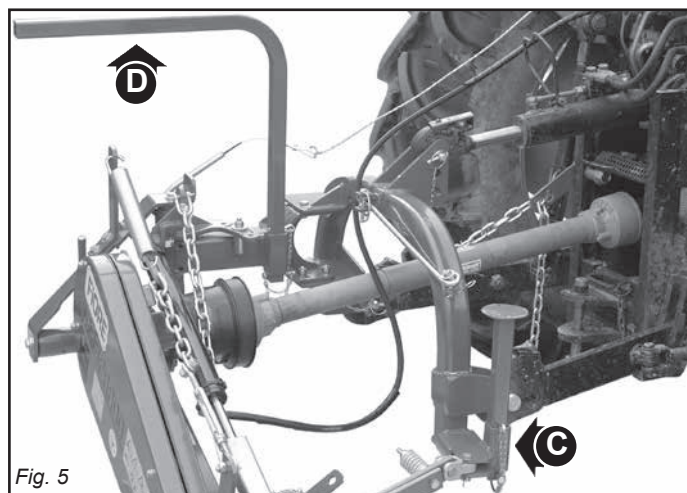

Fig. 5
- 36) Before operating the mowing machine, check that the support struts (C and D, Fig.5) have been removed from underneath the implement. Make sure that the mower has been correctly mounted and adjusted. Check that the machine is in perfect order and that all components subject to wear and deterioration are efficient.